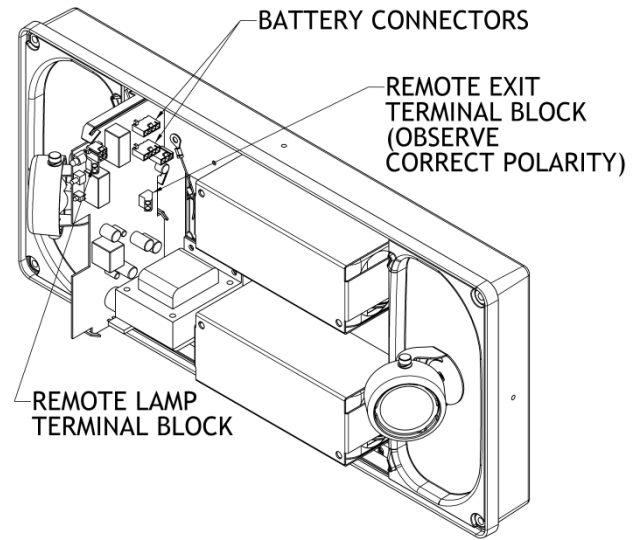

Figure 1
### Installation (Figs. 1, 2, 3)
- A single momentary actuation of the laser-activated photodetector (see fig.1) or the manual test pushbutton will initiate a one-minute test. The normally off emergency lamps will come on and the status LED will display single green flashes, signaling a test is in progress.